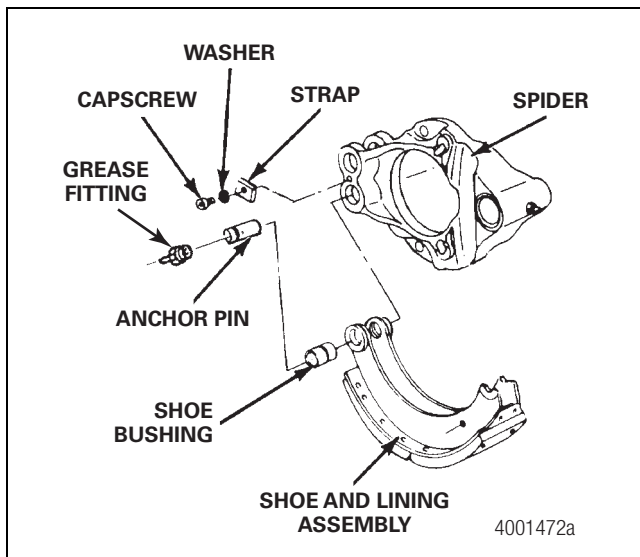

Figure 5.2
B. Remove the strap. Figure 5.2.